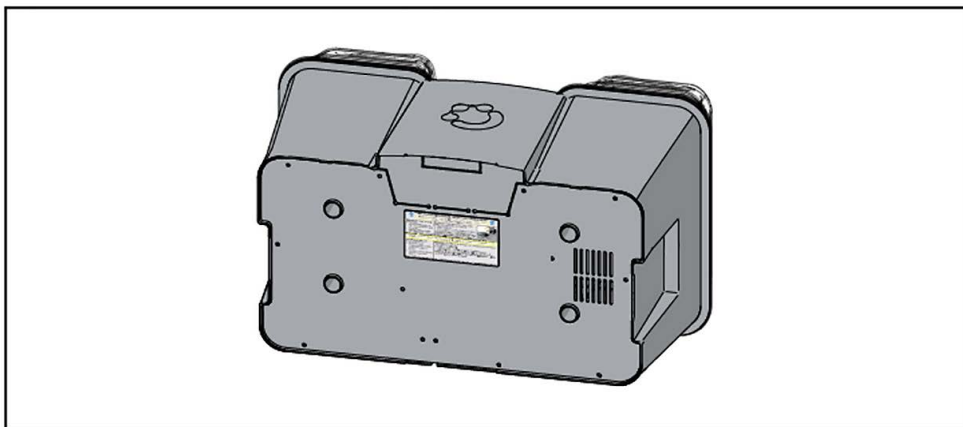

Figure 14 Bottom of NUTROZ device
Step 2: Tip the box to expose the bottom as shown in Figure 14.